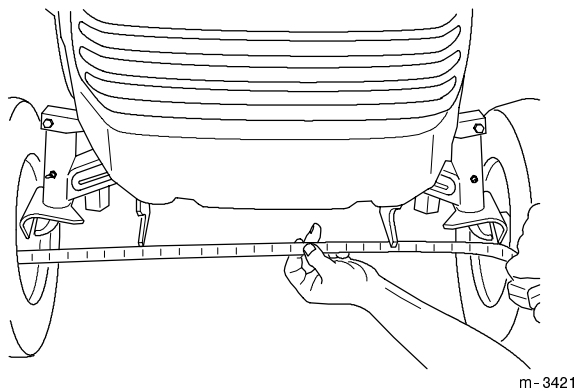

Figure 39
Maintaining correct front wheel toe-in is important for safety, Smart Turn™ Steering operation and ease of use. If uneven tire wear, lawn scuffing or hard steering develop, adjustment may be required. Check the toe-in after every 100 operating hours or once a year, whichever occurs first (Fig. 39).
4. Measure the distance between both of the front tires at spindle level (at the front and rear of the wheels) (Fig. 39).